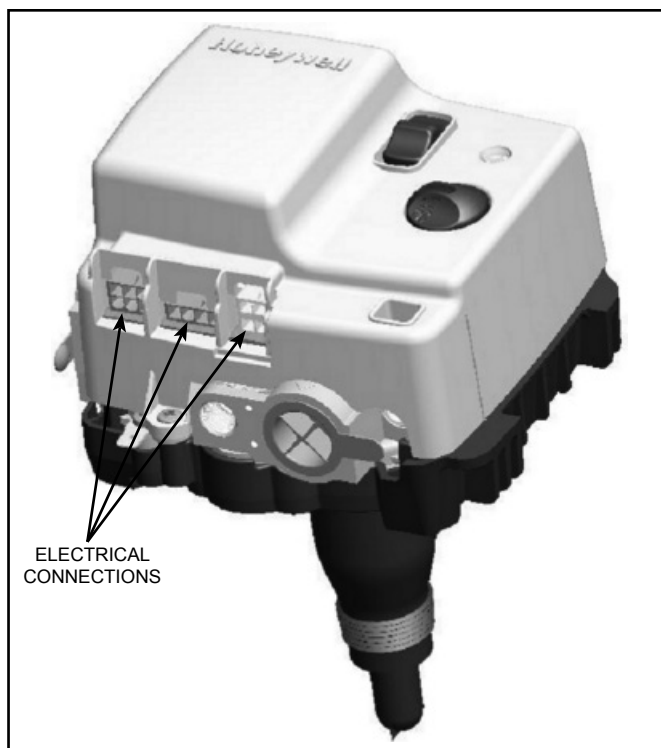

Figure 10
3. Reconnect all the electrical connections to the bottom of the gas control valve/thermostat, gently pushing each connector up until it snaps into place (see Figures 10 & 11).
4. Reconnect all the electrical connections to the bottom of the gas control valve/thermostat, gently pushing each connector up until it snaps into place (see Figures 10 & 15).